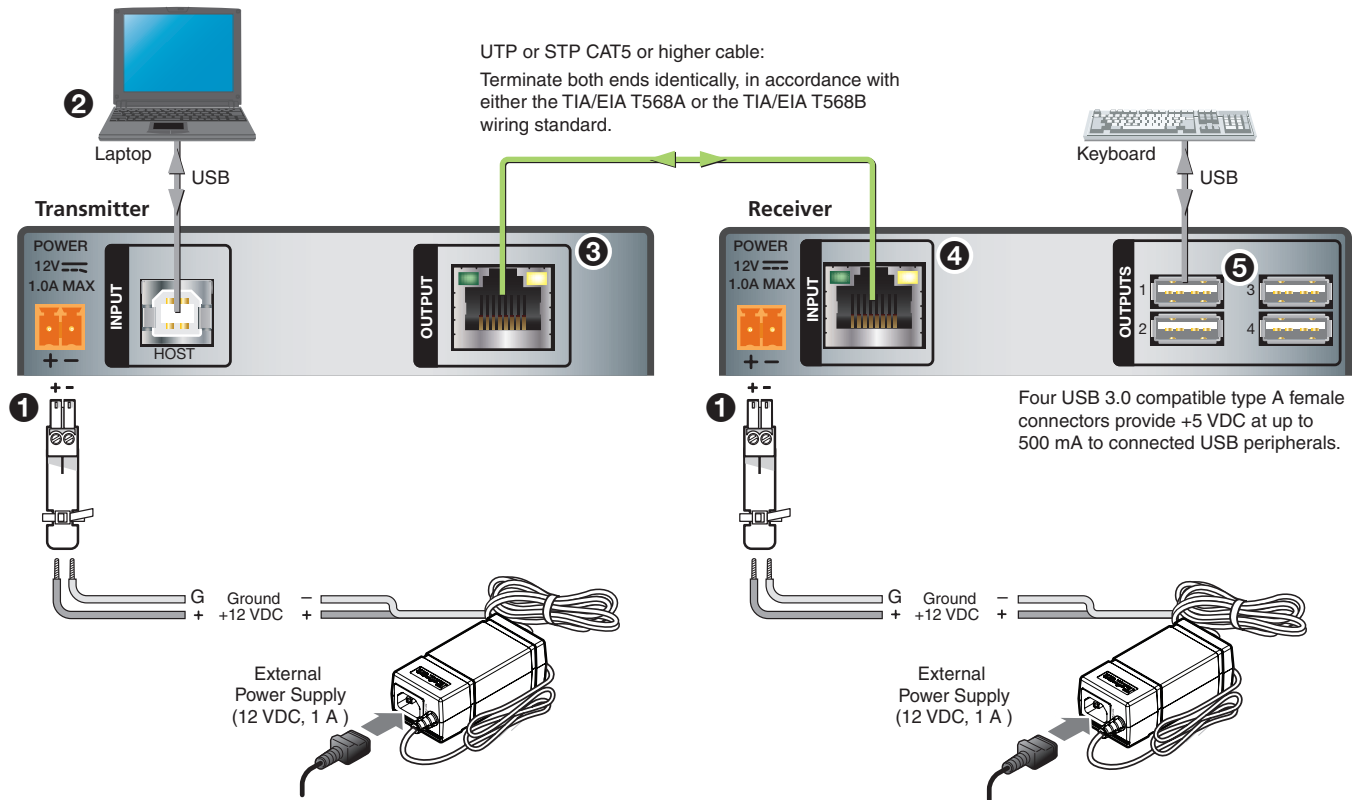

Figure 7. USB Extender Plus T-R Connection with Two External Power Supplies
Figure 7 shows connections for the USB Extenders Plus T/R, rack-mountable models. The connectors are the same for the AAP and Decora models except that the USB Hub connectors are on the receiver front panels and are accessible after wall mounting.
To ensure proper operation, the transmitter, receiver, USB host, and USB peripherals must be connected properly and in the sequence described here (see figure 7 on the previous page).
2. Wire the two provided power supplies to the 2-pole captive screw connectors (see figure 7, 1) on the rear panels of the transmitter and of the receiver.